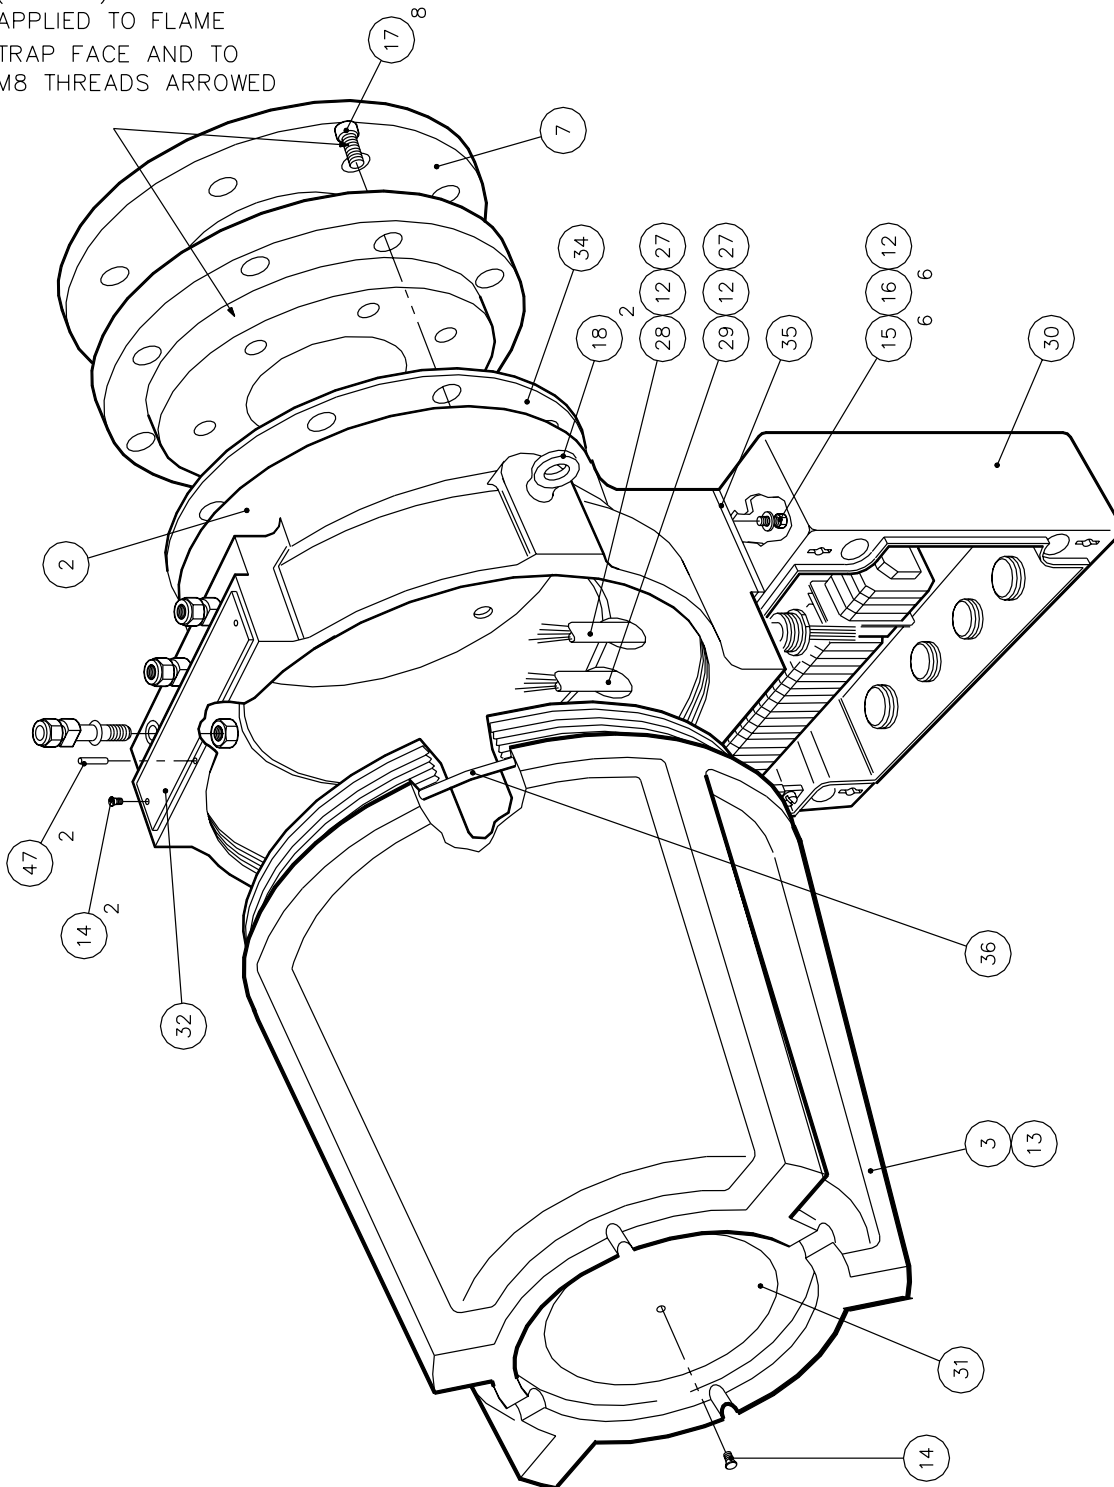

Figure 7.2A Exploded View, Sensor Head General Assembly
7.2.2 Sensor Head General Assembly (Figure 7.2A and B)